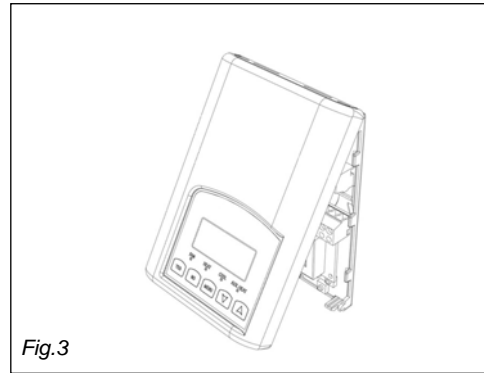

Fig.3
- Remove Assembly and wiring terminals from sticker. **(Fig. 3)**